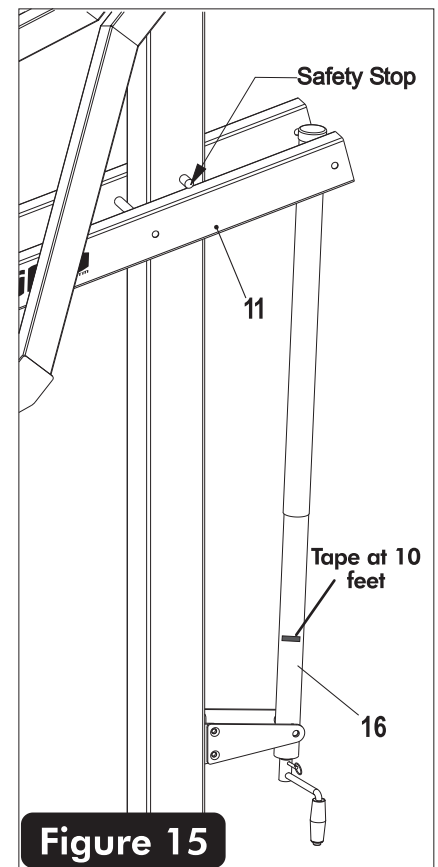

Figure 15
21. Lower backboard all the way down. Do not force actuator once backboard is in it's lowest position. See **Figure 15**.